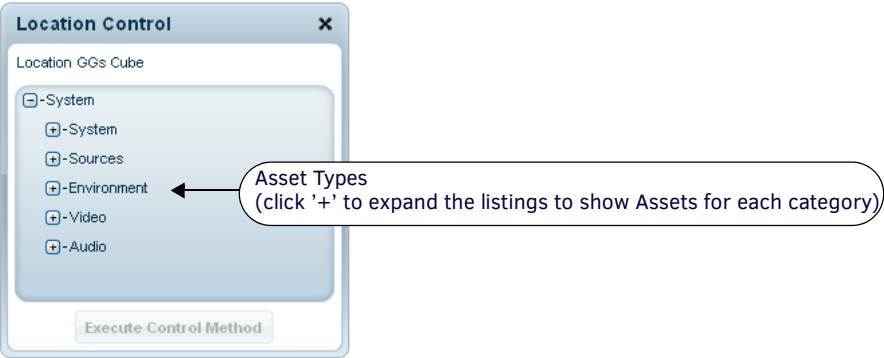

FIG. 122 Location Control Widget showing Asset Types for the selected Location
- 1. Click the + sign next to *System* to show all Asset Types that have been assigned to this Location (FIG. 122).